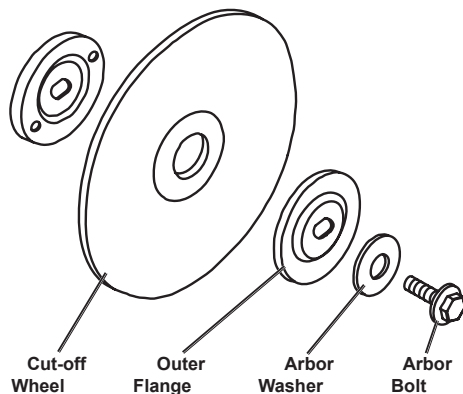
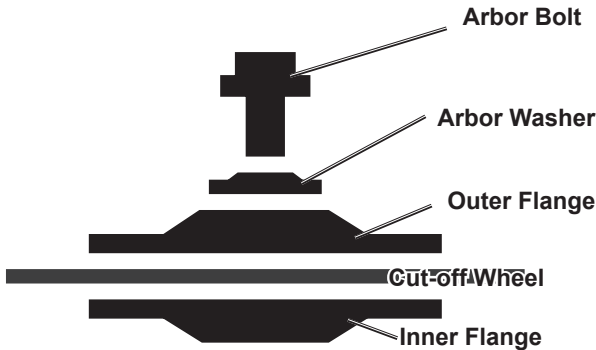

Figure 6: Removing Wheel
Figure 7: Flange and Washer Cross-section
- > Replace with a new Cut-off Wheel, and reassemble the parts shown in Figure 6. The concave side of the Outer Flange and Arbor Washer must face the wheel, as shown in Figure 7. While holding the Spindle Lock Pin, tighten the Arbor Bolt with the Wrench.